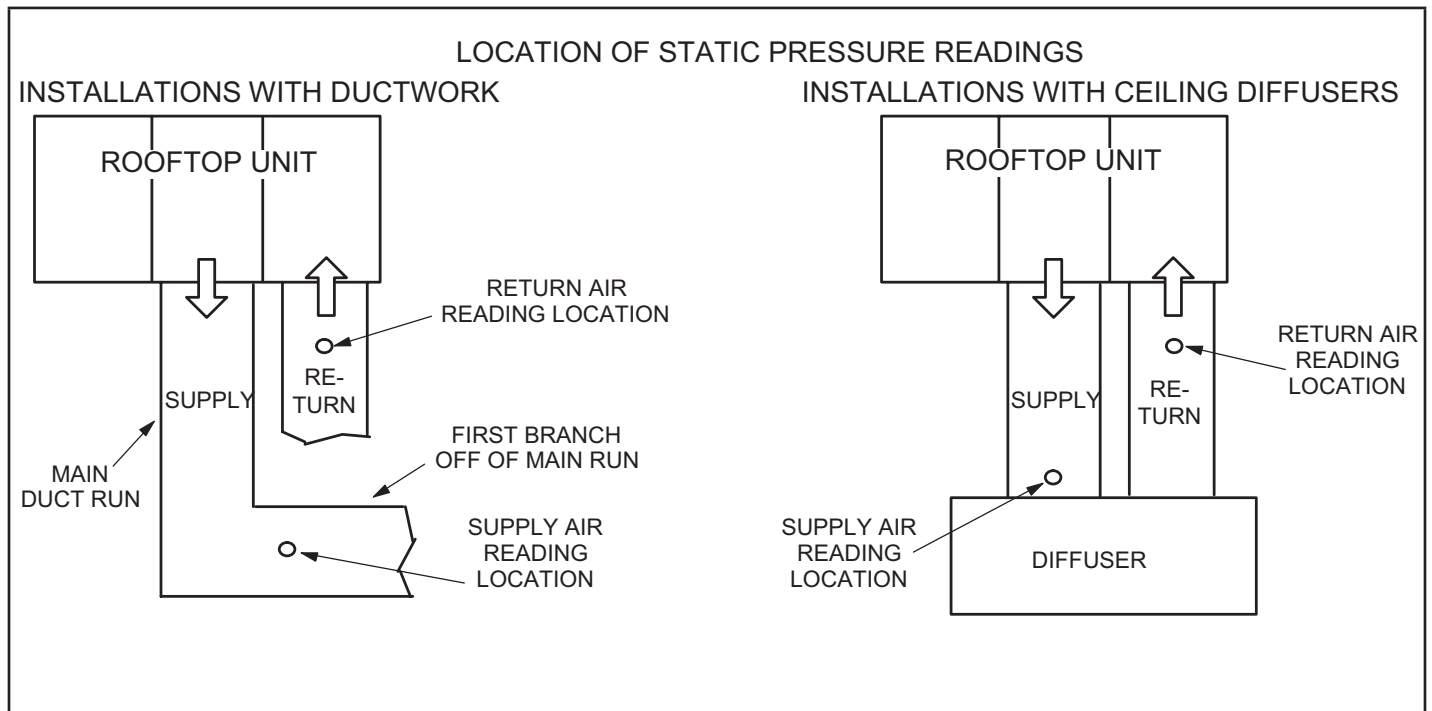

FIGURE 18
- 2 - With all access panels in place, measure static pressure external to unit (from supply to return). Blower performance data is based on static pressure readings taken in locations shown in FIGURE 18.